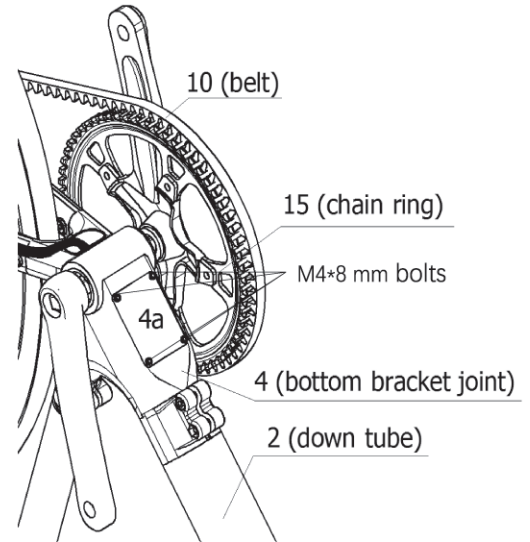

Figure 37-2.
d. Use a 3 mm Allen key to fix cover 4a on Part 4 with four M4*8 mm bolts, as shown in Figure 37-2.